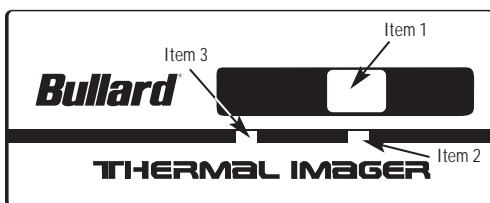

Figure 11
Using the Truck Mount Direct Charge System: There are three holes in the plate covering the charger. One hole is for the direct charge cable and two are to allow the user to view the LED lights. Insert one end of the direct charge cable into the hole provided on the right (**Figure 11, item 1**). Insert the opposite end of the direct charge cable into the direct charge port located on the handle of the thermal imager. A red light will illuminate on the charger to indicate that the camera battery is charging (**Figure 11, item 2**). When the light on the charger turns to green, your battery will be fully charged. You may leave the battery in the charger indefinitely. A battery in the charger and a battery installed in the camera may be charged simultaneously. There is a second indicator light for the battery in the charger (**Figure 11, item 3**). Charging both batteries at the same time will not cause any damage to the batteries or charging unit.